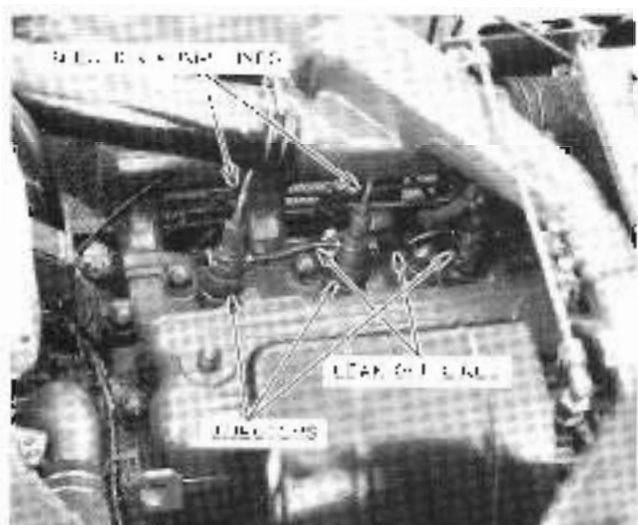

Figure 56 – Fuel Injector Leak-off Lines
1. Connect a hose that leads to the injectors and lines. Disconnect the leak-off line from the injectors (Figure 56).